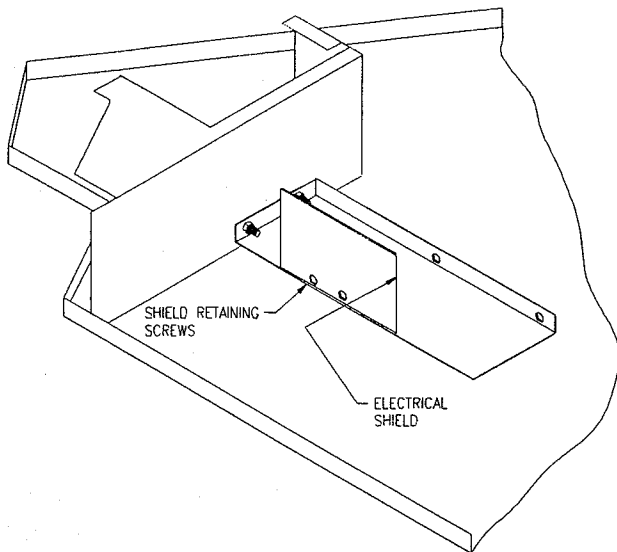

Figure 26
3. Remove the two electrical shield screws and shield (see Figure 26).
3. Remove the shield by removing two screws (see Figure 26).